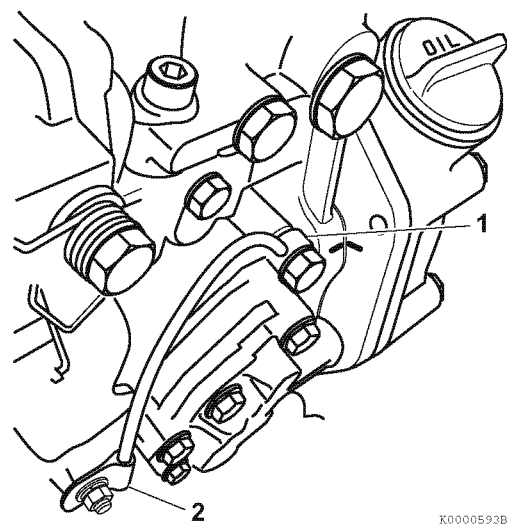

Figure 7-33
8. Reconnect the lube oil line (1, **Figure 7-33**) and clamp (2, **Figure 7-33**).